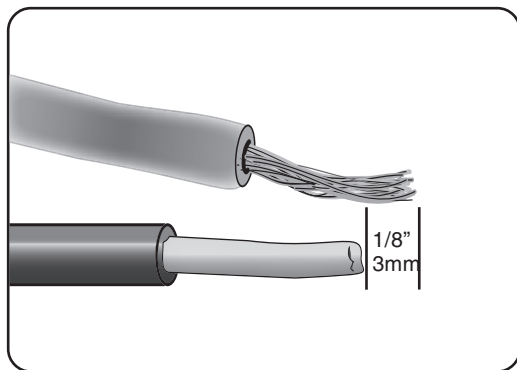

Figure 28
- Extend the dishwasher's stranded wires 1/8" (3mm) beyond the power supply cable's solid wires, as shown in **Figure 28**.